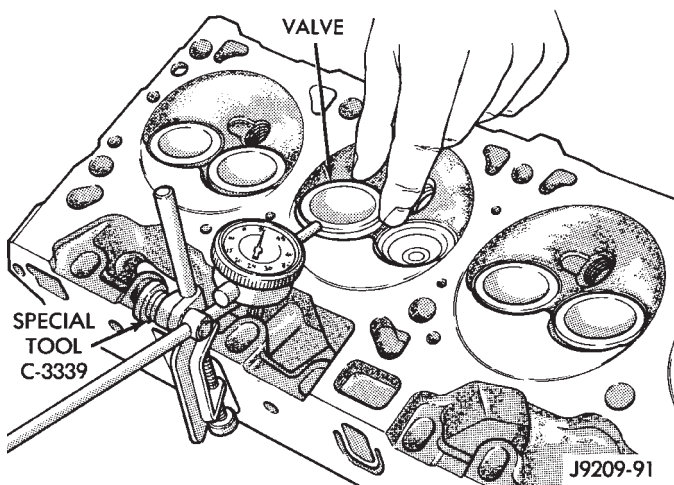

Fig. 51 Measuring Valve Guide Wear
(2) Attach Dial Indicator Tool C-3339 to cylinder head and set it at right angle of valve stem being measured (Fig. 51).